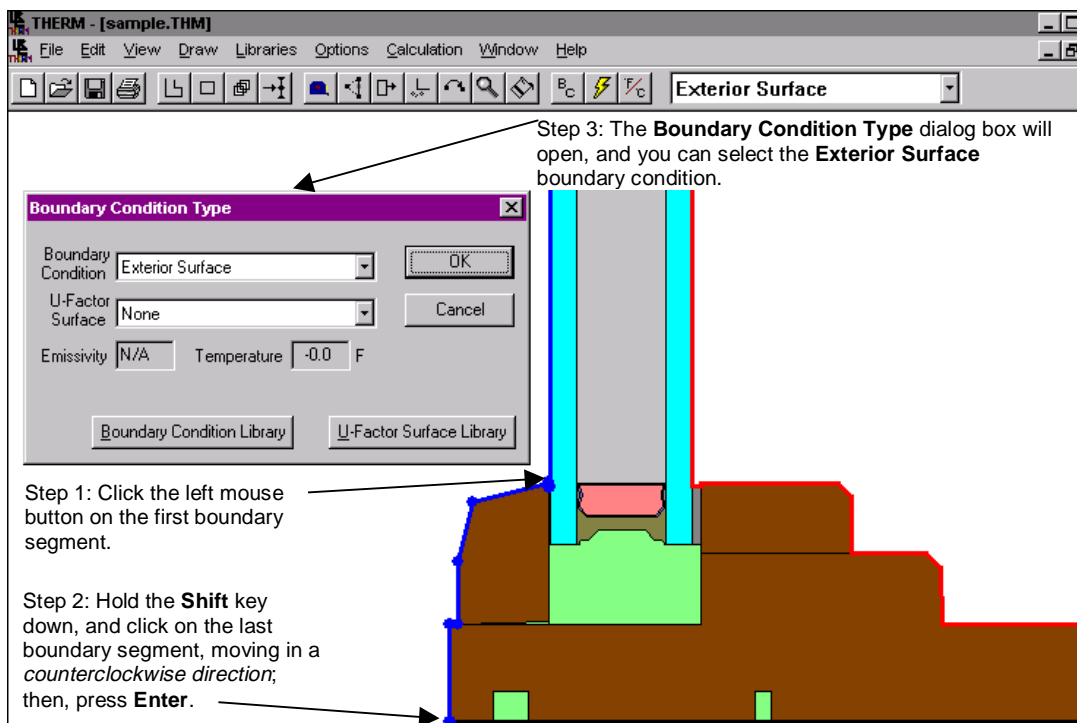

Figure 8-48. Select multiple boundary segments for the exterior side of the cross section, and define their boundary conditions.
- Use the same technique to define the boundary conditions for the exterior (left side) of the cross section, as shown in Figure 8-48. Select the exterior boundary segments for the exterior stop and the frame, and assign them the **Boundary Condition** of **Exterior Surface**.